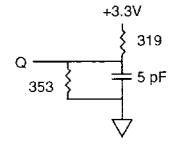

Fig. 2 OUTPUT LOAD EQUIVALENT
- 'HZCE, 'HZOE and 'HZWE are specified with CL = 5pF as in Fig. 2. Transition is measured ±200mV from steady state voltage.